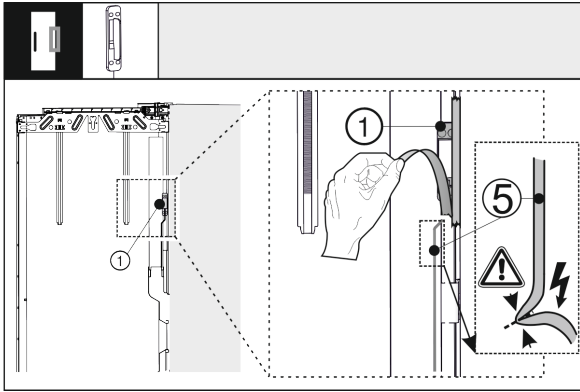

Fig. 39
- ▶ Remove the knocking sensor Fig. 39 (1) from the outer door. Do not damage the connection cable Fig. 39 (5).